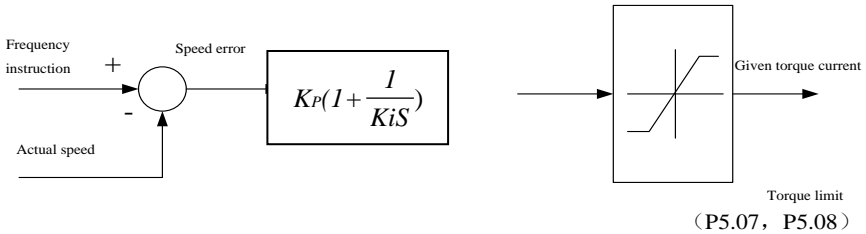

Fig. 6-14 Simplified block diagram of ASR
a. Speed regulator (ASR)'s structure is shown in Fig. 6-14, where K_P is proportional gain P, and K_I is integration time I.